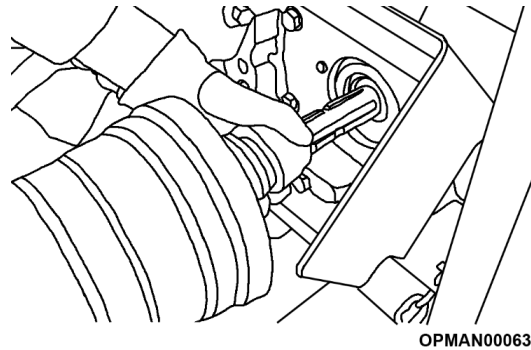

Figure 4.12 – Fit Input Shaft To Tractor
- 4.5.1.4 Push the driveline yoke onto the tractor output PTO shaft, release the locking collar and position the yoke of the input shaft until the locking collar balls are seated onto the tractors output PTO shaft; see Figure 4.12.